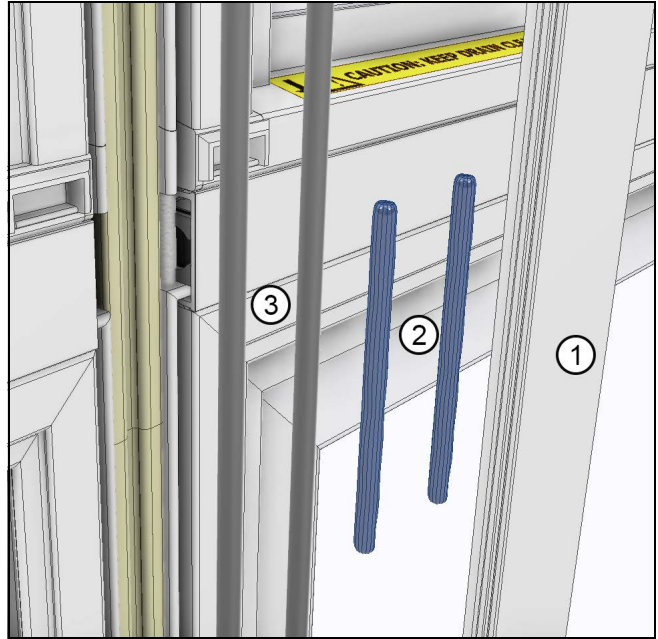

Figure 20
2. Mull and seal the two vertical sections together. Insert kerf weather strip continuously along the length of the vertical accessory kerfs. Apply high performance silicone with a caulking gun to span the intersection area. Bead should be 2-1/2" long x 1/8" diameter. See Figure 20.